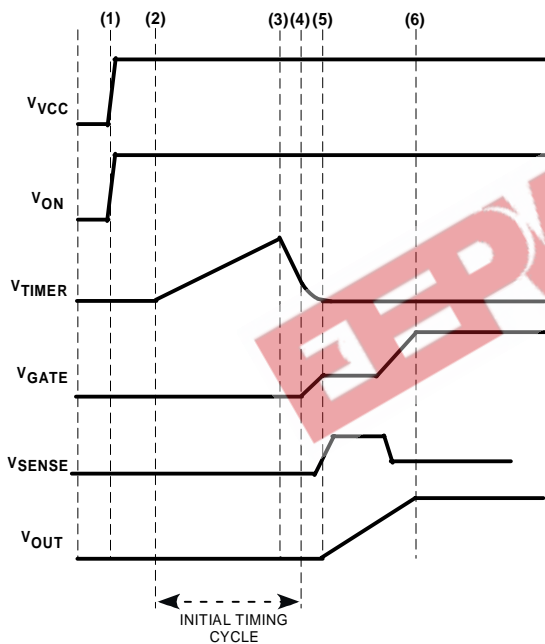
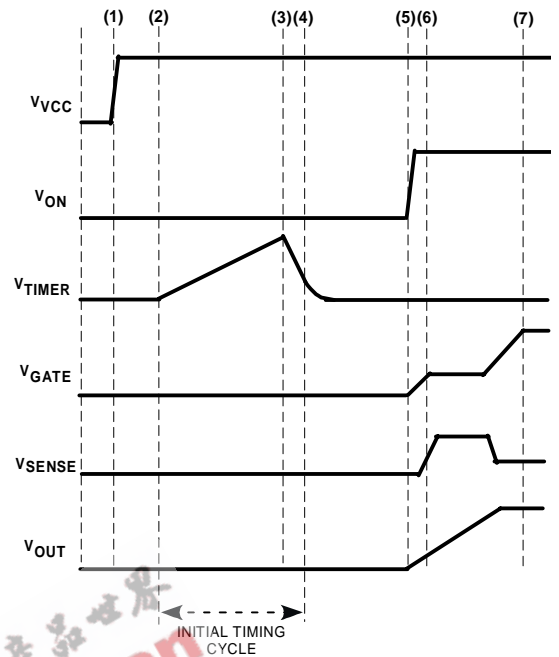

Figure 4. Start-up (ON asserts as power is applied)
Figure 5. Start-up (ON asserts after power is applied)
When VCC is first connected to the backplane supply, there is an internal supply (time-point (1) in Figure 4) in the ADM1177 which needs to charge up. A very short time later (significantly less than 1 ms) the internal supply will be fully up and, since the undervoltage lockout voltage has been exceeded at VCC, the device will come out of reset. During this first short reset period the GATE pin is held down with a 25 mA pulldown current, and the TIMER pin is pulled down with a 100 μA current sink.
When the initial timing cycle terminates, the device is ready to start a hotswap operation (assuming ON pin is asserted). In the example shown in Figure 4, the ON pin was asserted at the same time as VCC was applied, so the hotswap operation starts immediately after time-point (4). At this point the FET gate is charged up with a 12 μA current source. At timepoint (5) the threshold voltage of the FET is reached and the load current begins to flow. The FET is controlled to keep the sense voltage at 100 mV (this corresponds to a maximum load current level defined by the value of R_{SENSE}). At timepoint (6) V_{GATE} and V_{OUT} have reached their full potential and the load current has settled to its nominal level. Figure 5 illustrates the situation where the ON pin is asserted after V_{VCC} is applied.